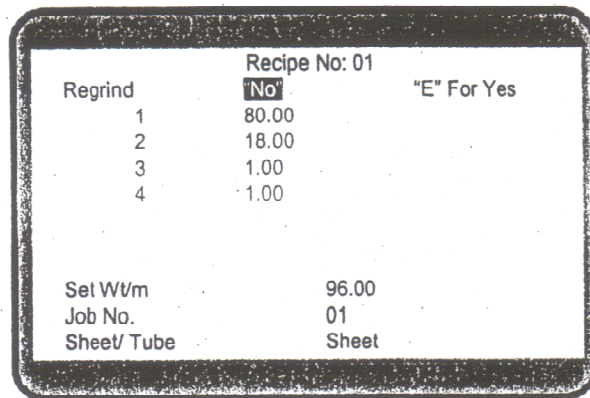

Fig. 7
- Enter the percentages using the numeric keypad (Fig. 7) and confirm these settings by pressing **E**.